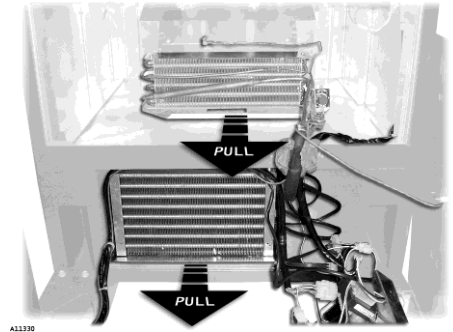

Figure 15. Remove the refrigeration unit
5. Grip the front lip of the condenser base and the evaporator base and pull out at the same time. See **Figure 15**.